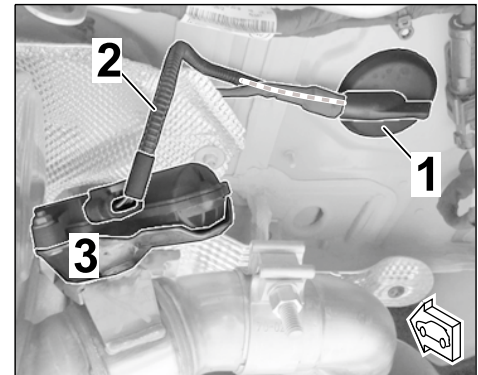

Figure 21
3.3.4 **ONLY** if a grommet with several lines is installed on the underside (including an exhaust flap branch (left/right of the standard rear silencer \Rightarrow *Figure 21*):